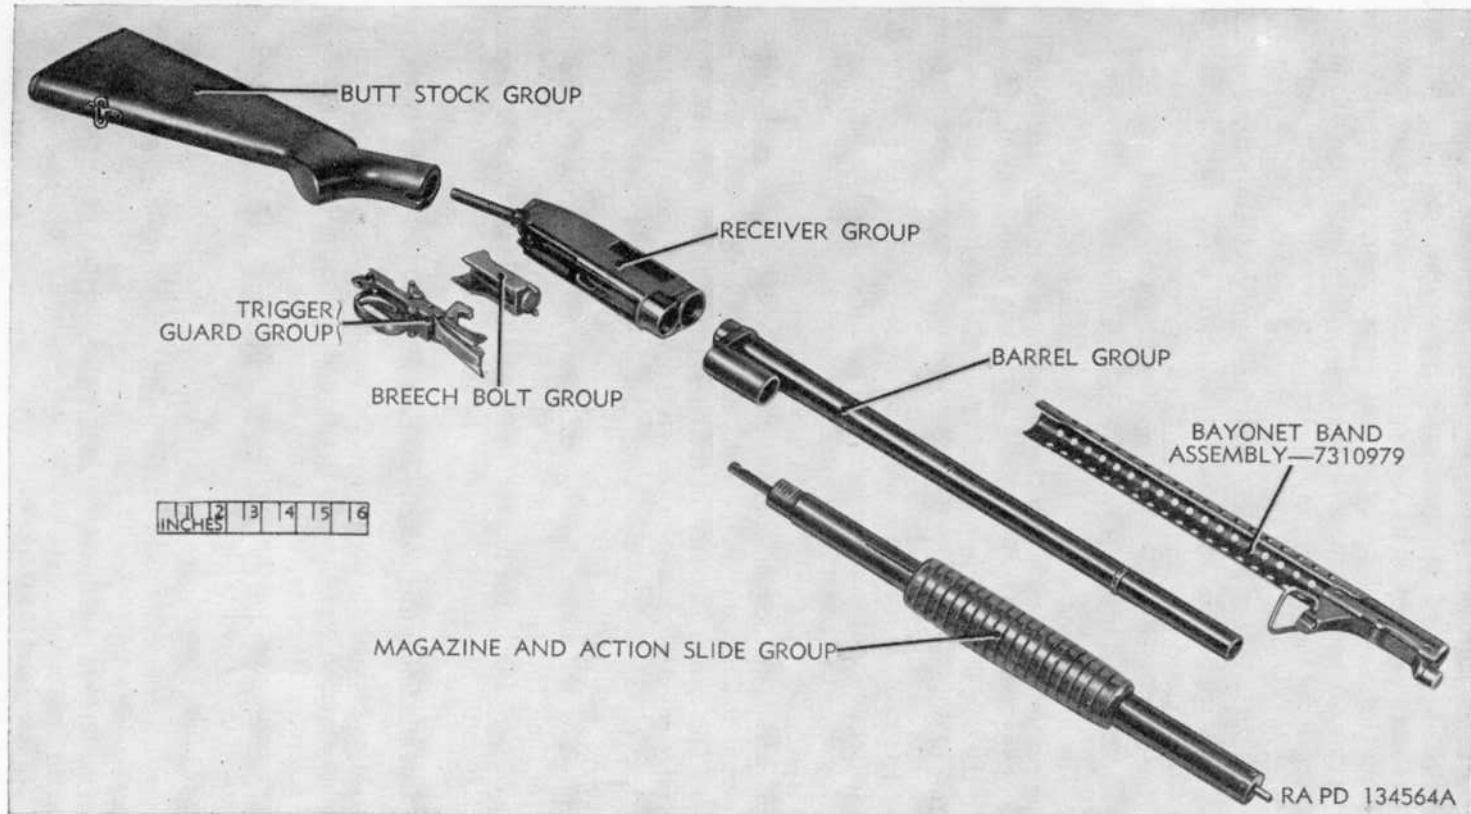

Figure 5. Major groups of Winchester shotgun M12.
c. This shotgun is primarily composed of a bayonet band assembly, a magazine and action slide group, a barrel group, a trigger guard group, a breech bolt group, a butt stock group, and a receiver group (fig. 5).